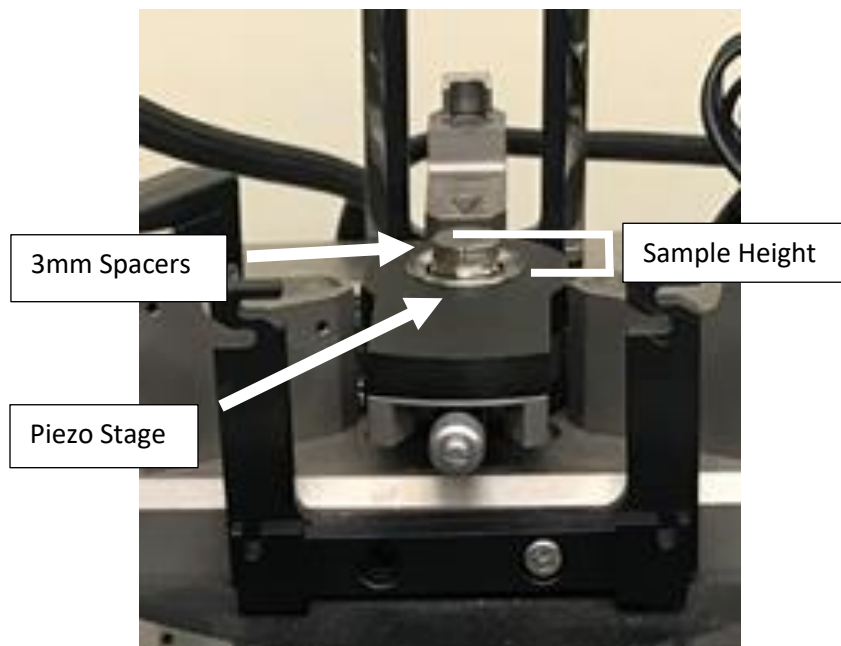

Figure 2: Piezo stage with 3mm spacer
- Samples should be mounted on the steel discs (Figure 2) that are in the lab, using double sided carbon tape or some other adhesion method.
- The sample height needs to be measured using the digital vernier caliper, this includes any 3mm spacers and steel disks being used (Figure 2). Sample height is from the top of the piezo stage to the top of the sample.